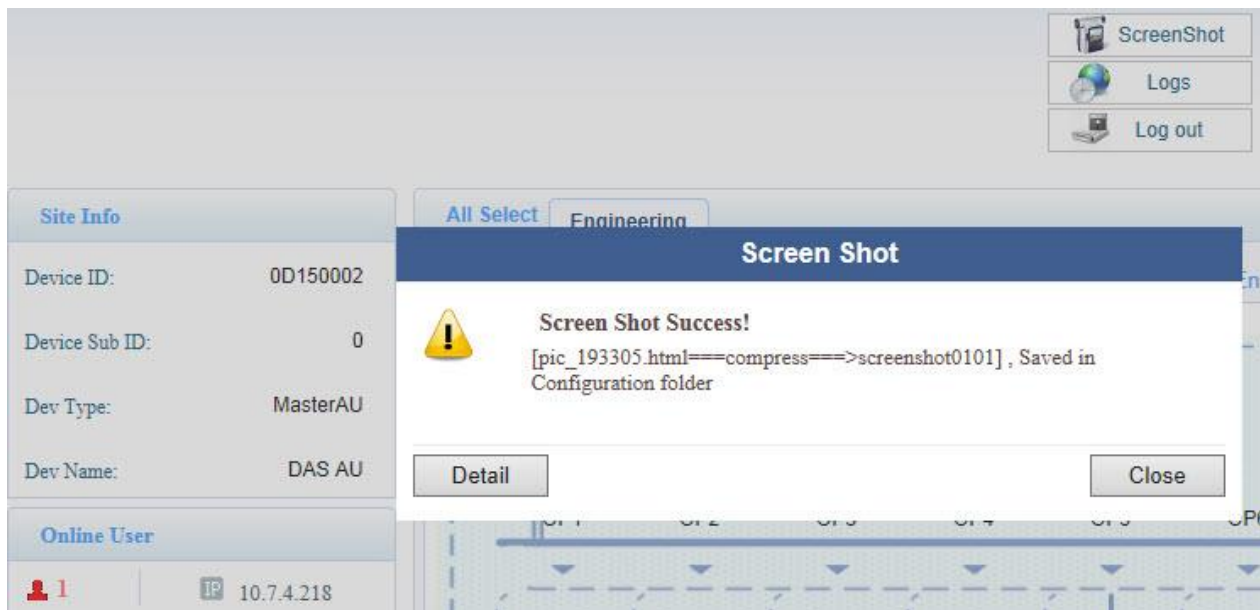

Figure 2-12 Screen Shot Capture Success Pop-up Window
- c) Close the popup window after the screen shot has been successfully captured as shown in Figure 2-12.